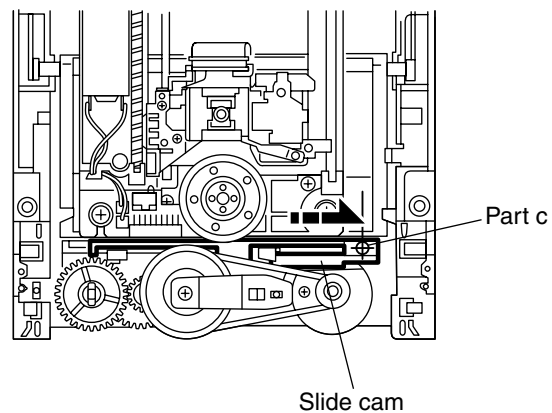

Fig.3
■ Removing the mechanism assembly (see Fig.3,4)
ATTENTION: Before reattaching the tray, slide the part **c** of the slide cam to the right as shown in Fig.3.